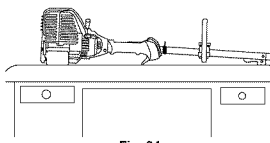

Fig. 24
- Place the engine on a flat, level surface with the cutting head shield hanging off a work bench or table to get a proper oil level reading (Fig. 24).